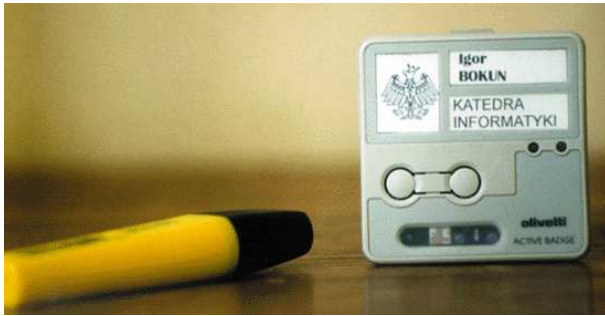

Figure 2: An Active Badge
The Active Badge system used small, powered (hence ‘active’) tags that were worn as badges (Figure 2). Each badge had a unique identifier and would periodically (0.1 Hz) transmit it over an infra-red (IR) channel.